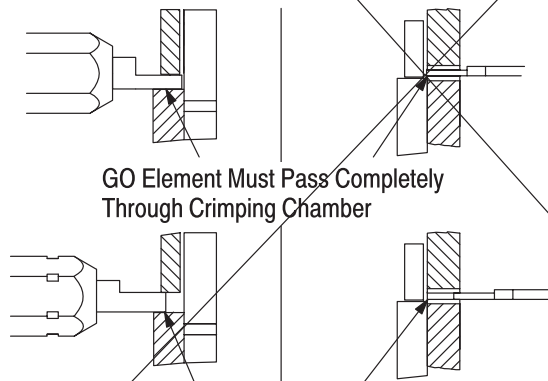

Figure 5
This inspection requires the use of plug gages conforming to the dimensions provided in Figure 5. A|T|S does not manufacture or market these gages. To gage the crimping chamber, proceed as follows:
The GO element must pass completely through the crimping chamber. See Figure 5.
4. Align the NO-GO element and try to insert it straight into the same crimping chamber. The NO-GO element may start entry, but must not pass completely through the crimping chamber. See Figure 5.